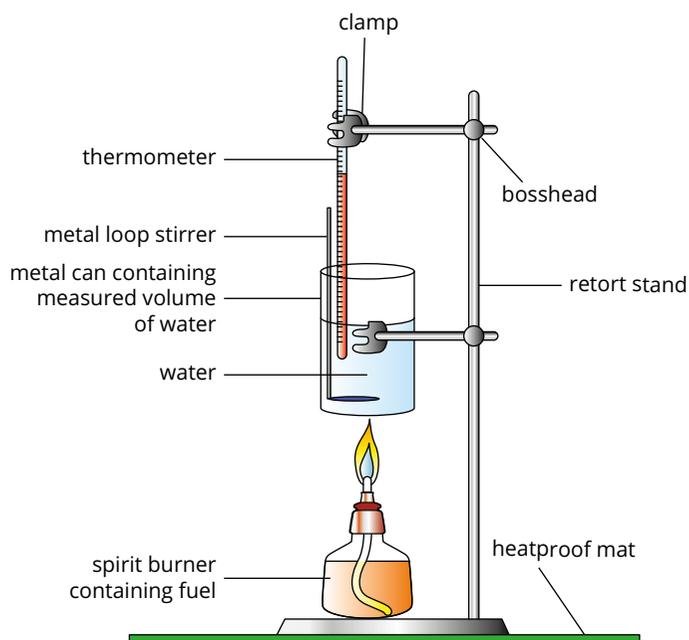

FIGURE 20.1.2 Apparatus for measuring heat energy released when a fuel burns
- In this example, the heat given off in the combustion reactions of a range of hydrocarbons is measured by burning a certain amount of hydrocarbon and measuring the heat produced by measuring the temperature change of water. A possible set-up for the experiment is shown in Figure 20.1.2.